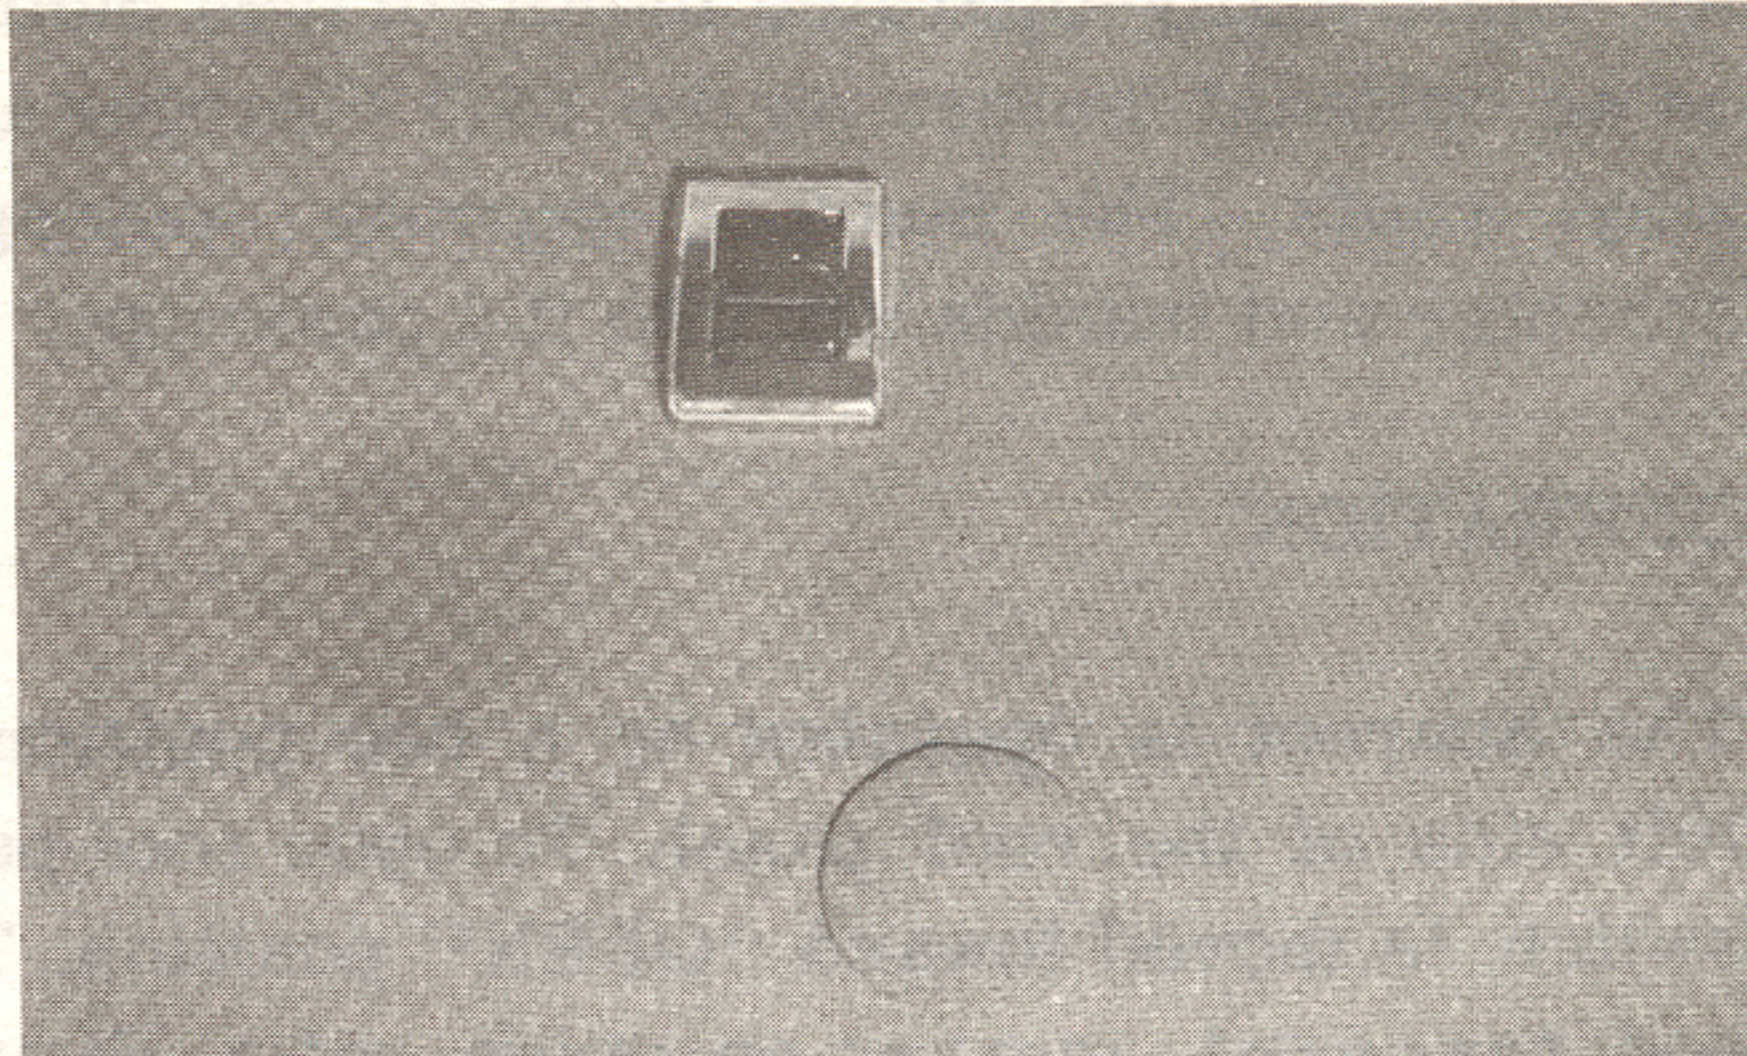
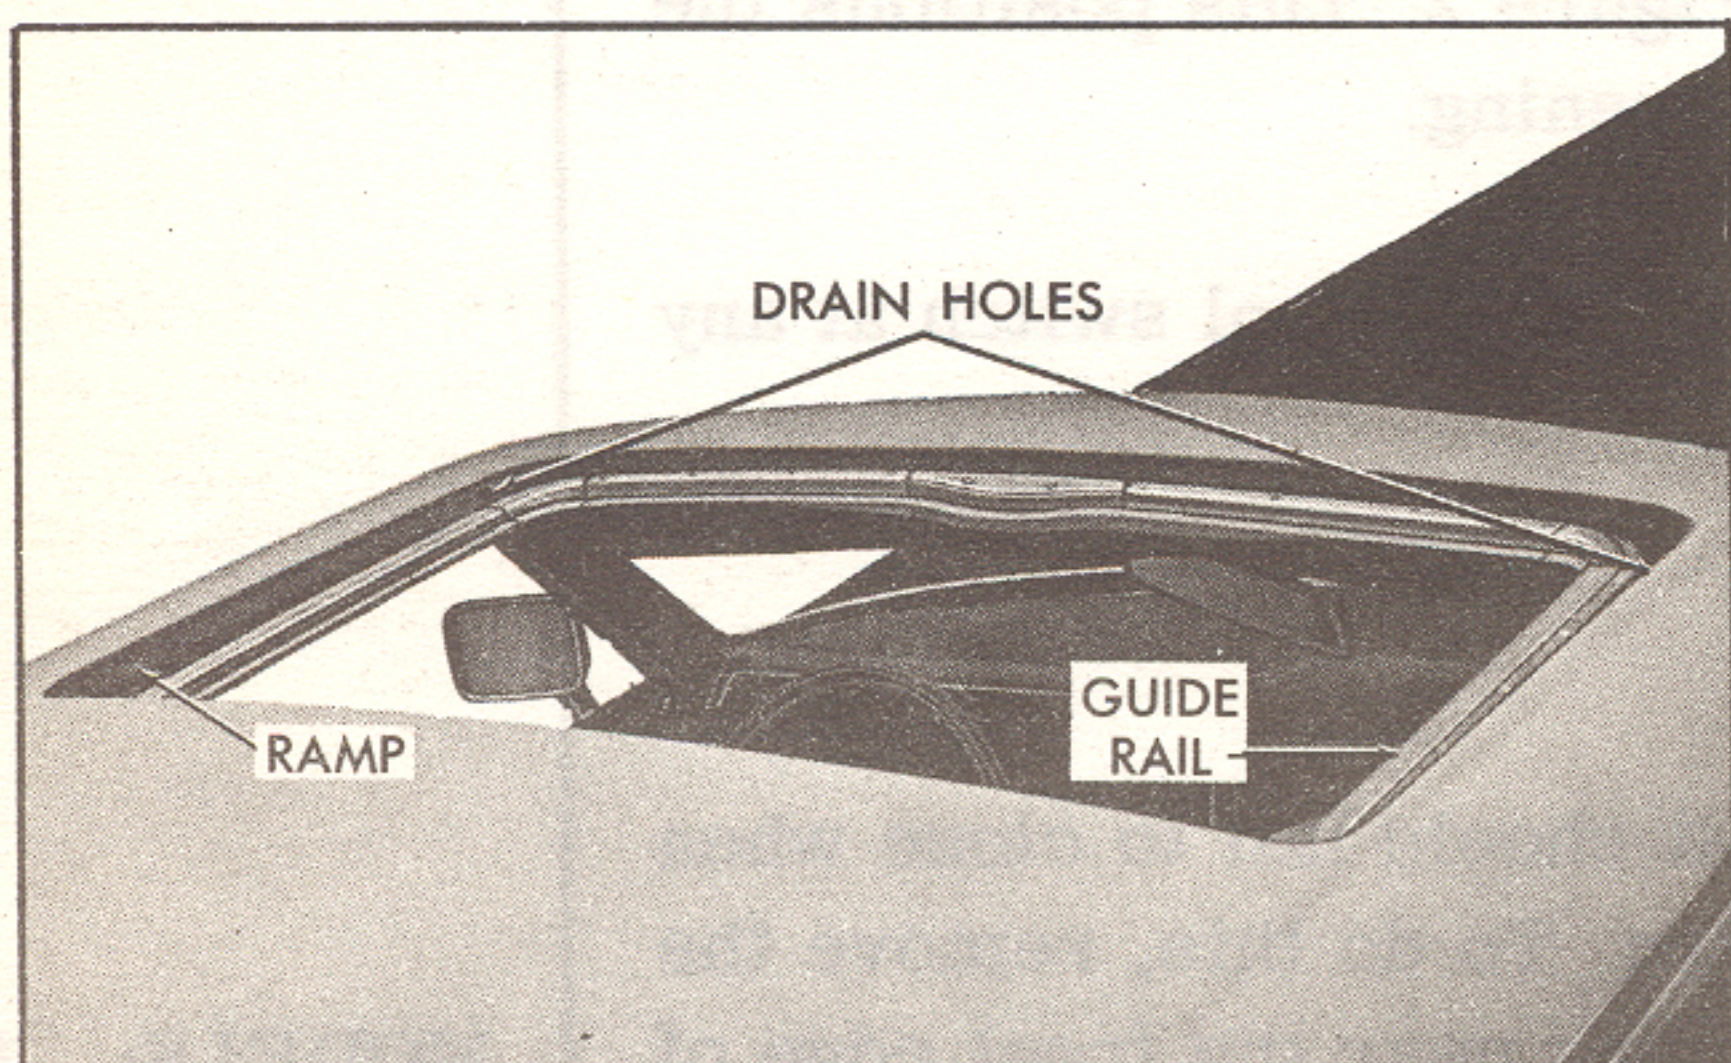

Fig. 3. Control Switch
Fig. 2. Sunroof - Fully Opened
The Sunroof is operated by a two-position switch, Figure 3, located on the left side of the roof panel. To open roof panel, with ignition ON, the control switch is moved toward "OPEN" position. The roof panel then retracts down and rearward, moving on guide rails, Figure 2, from the flush roof position back into a storage space between the headlining and the roof. To close the roof panel, the switch is moved to the "CLOSED" position. The panel then moves forward in the guide rails and, as it nears the end of forward travel, the rear portion moves upward on two ramps, Figure 2. This positions the panel flush with the roof and seals it tightly in the opening.
1. During regular maintenance, check the two drain holes at the front corners of the roof panel, Fig. 2, to make certain they are open and free of foreign material. If drains are plugged, they can be cleaned with an air hose or flexible wire. If they cannot be cleaned in this manner, they must be replaced.
2. Examine ramps in drainage channel, Fig. 2, to determine if they are properly aligned with lifting elements at rear of panel.